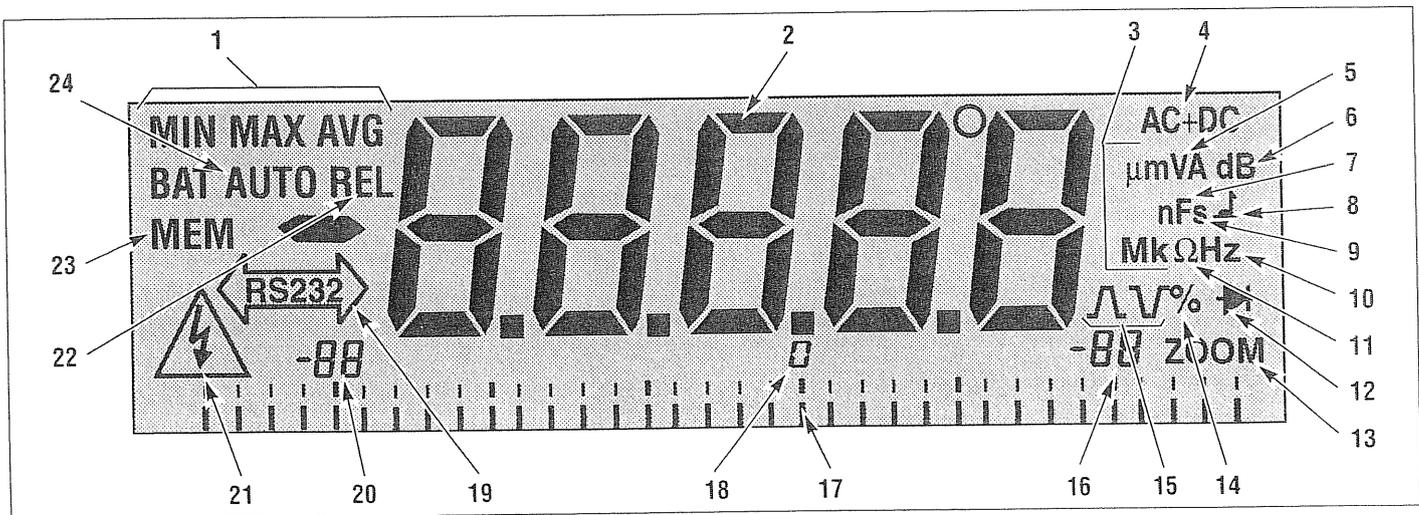

Fig. 12 LCD Display
- Display.** 50,000 count LCD display with 20 mm (0.79") high digits, automatic decimal point, minus sign and 34 segment bar graph. Indicates 5,000 counts in low resolution mode. Annunciators for all functions, units of measurement, and blown fuse. Overrange indicated by OL. Refer to Fig. 12 and the associated text for detailed description of the display.
Figure 12 shows all the annunciators on the LCD display. Refer to this illustration while reviewing the following descriptions.